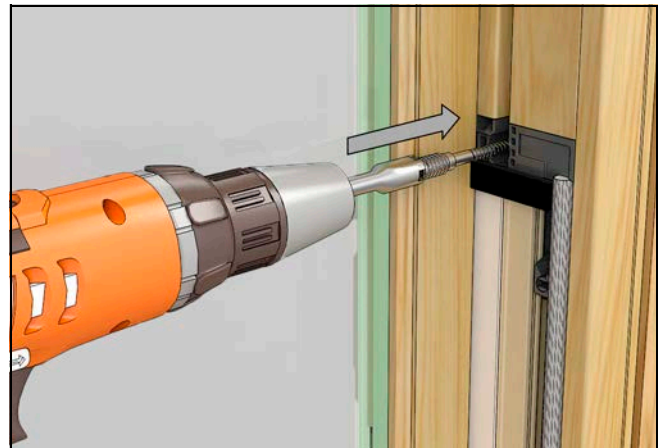

Figure 31
2. Using GRK's Top Star™ Crown and T15 Star bit system install the Top Star™ fastener into the jamb/ jamb receiver. Using Torx bit, adjust the jamb position as needed. See Figure 31.